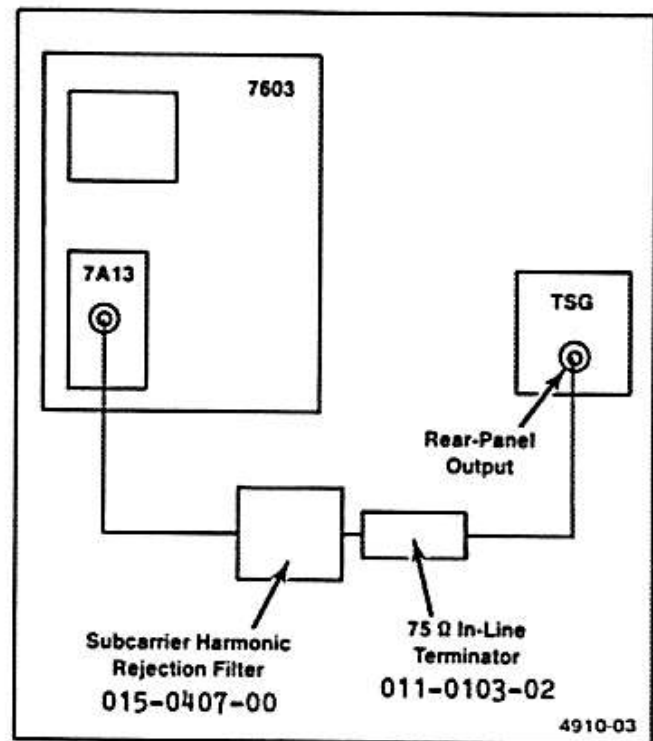

Fig. 3. Equipment Connection For Residual Chrominance Measurement.
i. CHECK—for less than 0.5 mV subcarrier on the white bar (See Fig. 3 for equipment connection diagram, oscilloscope at 1 mV, full bandwidth). If subcarrier amplitude on the white bar is greater than 0.5 mV, recheck equipment and connections and all V chrominance amplitudes (small adjustments of these amplitudes will affect the residual subcarrier amplitude on the white bar).